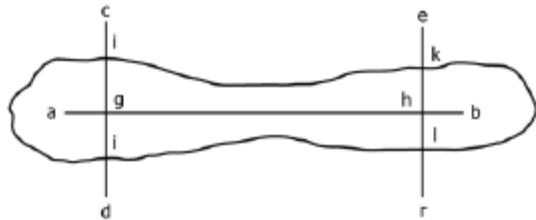

FIG. 1 The Scanned Trace and Markings for Area Integration of Creepage Area Around the Scribe Line.
- $a, b, c, d, e, f$  are individual corrosion measurements — see Figure 1.